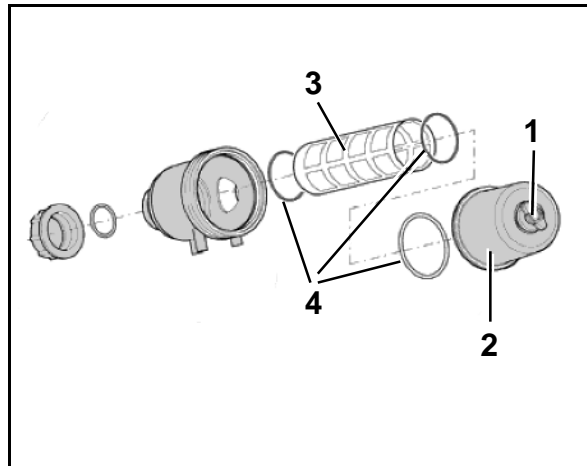

Fig. 218
Clean the suction filter (Fig. 218) daily after the spraying operation.
4. Slacken thumb nut (Fig. 218/1) on the suction filter.
5. Remove filter bowl (Fig. 218/2) by slightly turning it to the right and left hand side.
6. Pull out the filter insert (Fig. 218/3) and clean with water.
7. Check for damage the O-rings (Fig. 218/4).
Observe the correct fitting of the O-rings (Fig. 218/4).